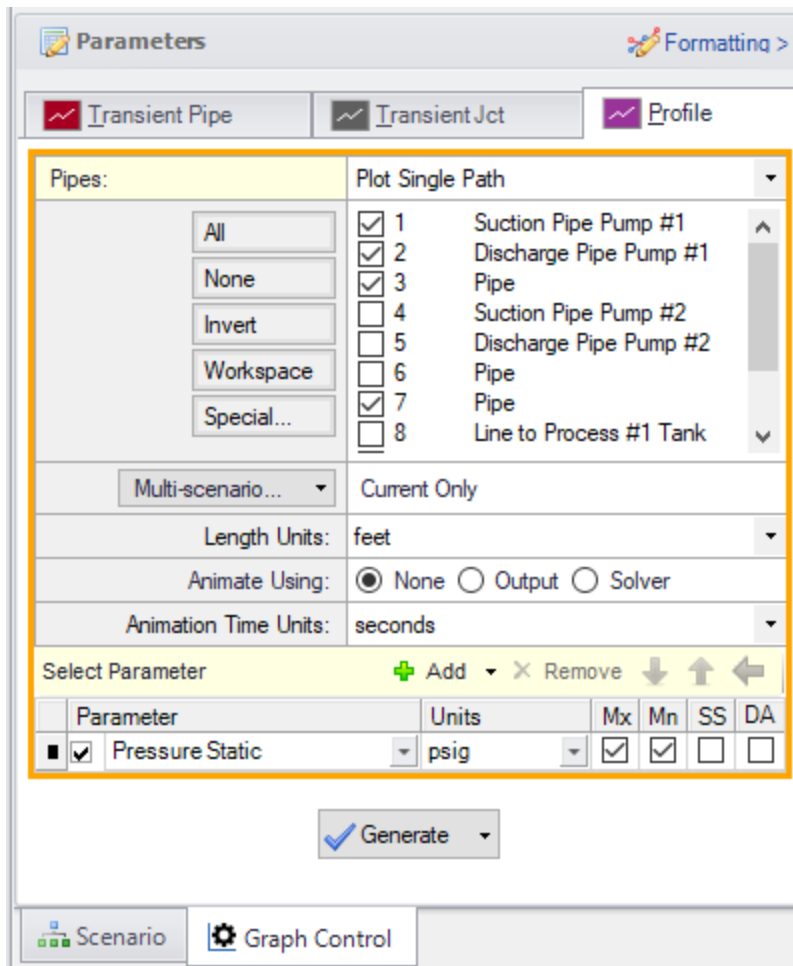
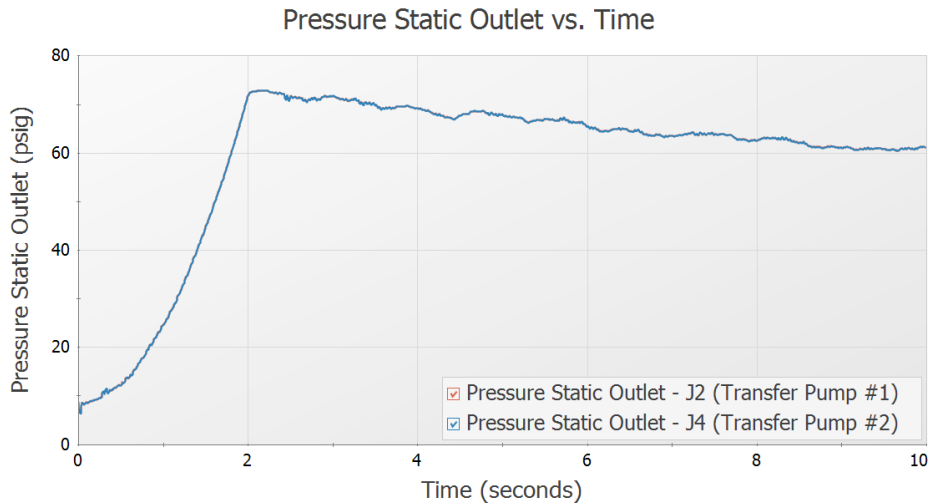
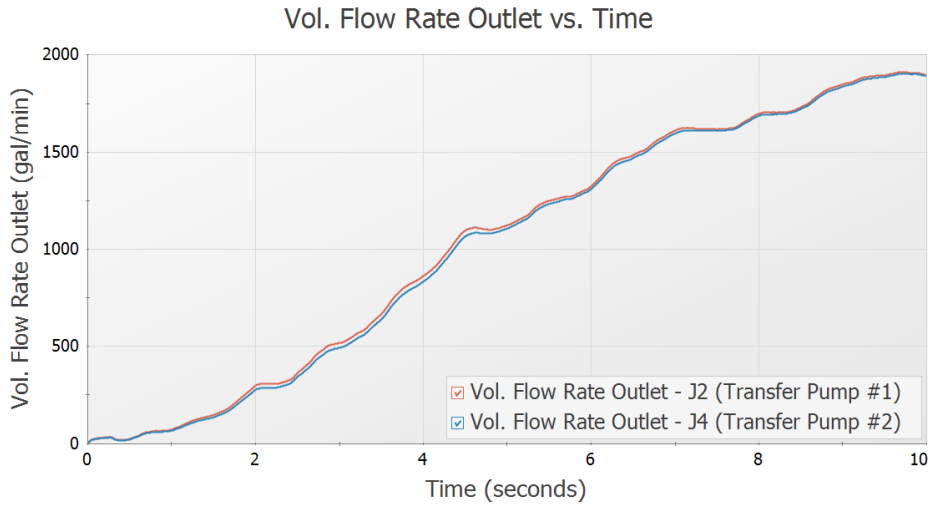

Figure 6: Select Graph Data for creating a pressure profile
Figure 8: Pressure transient at both pump discharge locations for Two Pump Start scenario
Figure 9: Flow rate transient at both pump discharge locations for Two Pump Start scenario
1. Select the Profile tab on the Quick Access Panel, as shown in Figure 6.
Since the maximum pressure is at the pump discharge, it is of interest here to plot the pressure vs. time at the pump. Go to the Transient Jct tab on the Quick Access Panel. Add the two pumps to the Graph These Junctions section. Select the Graph Parameter as Pressure Static Outlet and set the units to psig. Click Generate. As would be expected, both pressure transients are very similar. Results are shown in Figure 8. Click the Add Graph to List button on the Graph Results Toolbar (or by right-clicking on the graph and choosing Add Graph to List) and type the name *Pump Discharge Pressures* to save this graph to the Graph List Manager as well.
The flow rates through the pumps are also of general interest, and can also be plotted as shown in Figure 9 by changing the parameter being graphed to Vol. Flow Rate Outlet. Add this graph to the Graph List Manager as well and name it *Pump Discharge Flow Rates*.
It should be noted that the graphs in Figure 8 and Figure 9 could also be generated by using the Transient Pipe tab to graph the static pressure and volumetric flow rate at the inlet of pipes P2 and P5.
Create graphs similar to Figure 6 through Figure 9 for each of the scenarios by double-clicking on the graph names in the Graph List Manager. This will reveal that the maximum pressure for the One Pump Start scenario occurs at the pump discharge location, similar to the first scenario, but in the One Pump Start With One Running scenario the maximum pressure occurs in pipe P11. Also the pressure drops below atmospheric, but does not reach the vapor pressure of water.